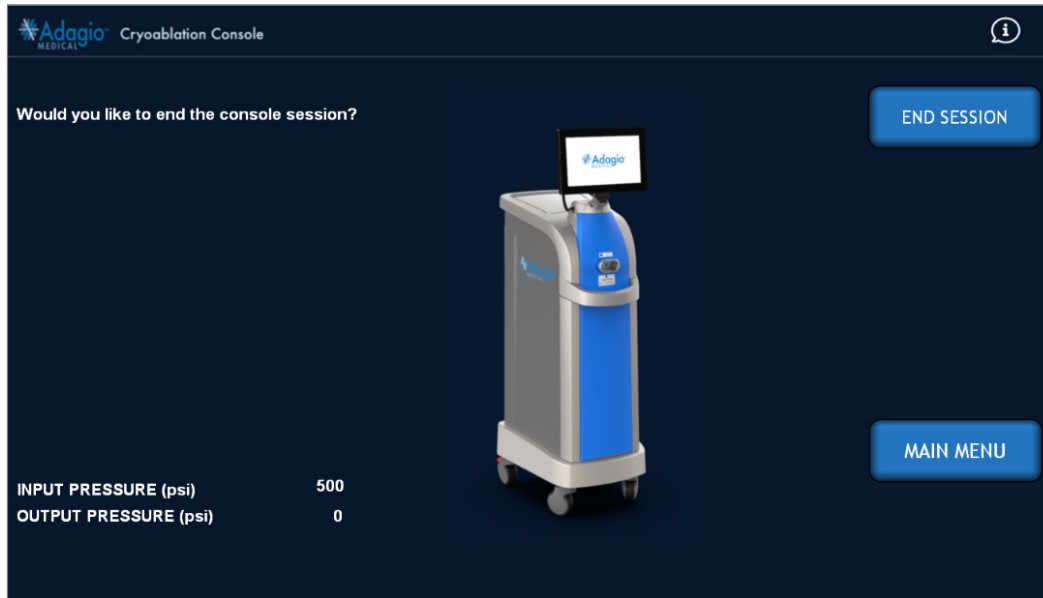

Figure 58 – Console Shutdown – Confirmation to End Session Screen Image
1. Confirm to end the console session by pressing “END SESSION” in the below screen *Figure 58*.